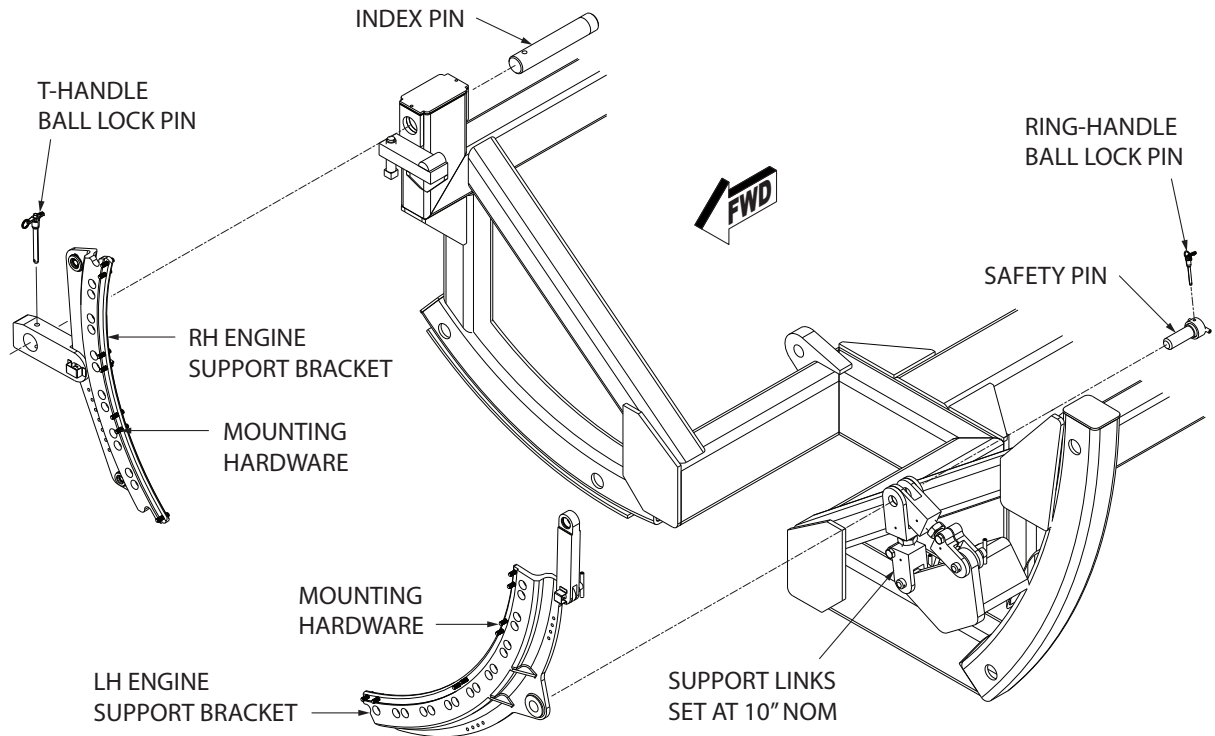

Figure 5.2-3
- 2) Remove the FWD LH and RH engine support brackets (IPB Figure 2 - Item 3) from the stand by removing the index pin and T-handle ball lock pin (IPB Figure 2 - Items 5 and 10) for the RH support bracket and the adapter pin and the ring-handle ball lock pin (IPB Figure 4 - Items 7 and 8) for the LH support bracket. (See Figure 5.2.3).